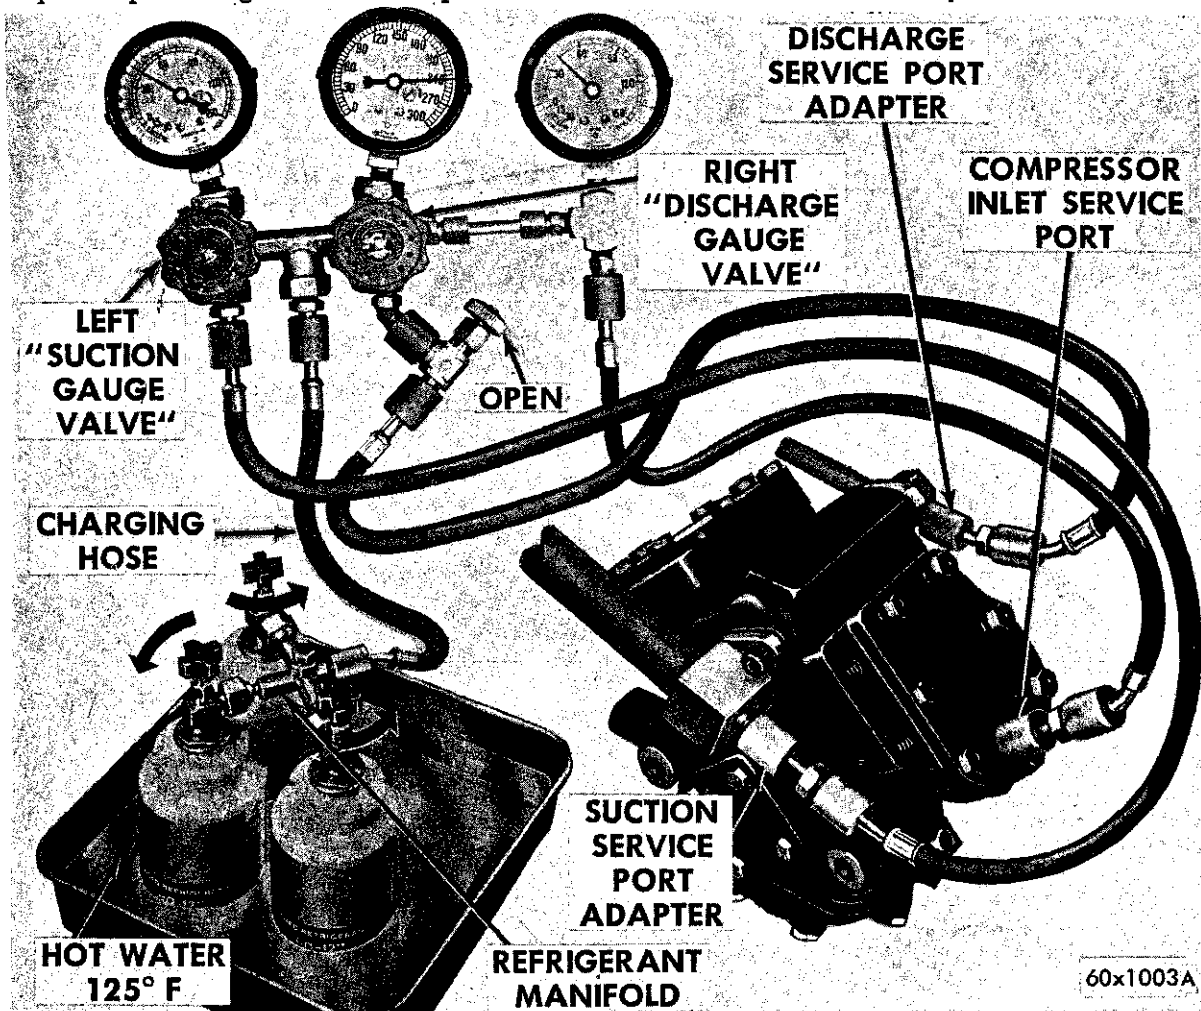

Fig. 53—Complete System Charging
32. CHARGING THE SYSTEM (Fig. 53)